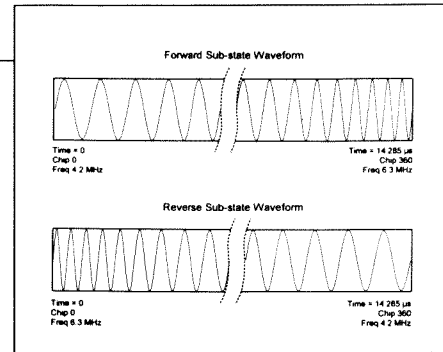

Figure 4. Forward and reverse sub-states.
There are two possible sub-states. The 360 chip sequence can be transmitted in either a forward or reverse direction. The complete UST is encoded using one of two complimentary maximal length coding sequences of forward (F) or reverse (R) sub-states. Phase 1 is F F F R R F R and Phase 2 is R R R F F R F. The 360 chip sequence was designed to distribute the transmit energy very evenly. The resulting waveform approximates a frequency sweep from 4.2 to 6.3 MHz, as shown in Figure 4. The sequence has good correlation characteristics and is tolerant of moderate frequency offsets.